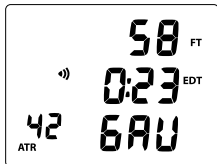

Fig. 92 - GAU DIVE MAIN
**GAU DIVE MAIN**, information provided includes (Fig. 92) -